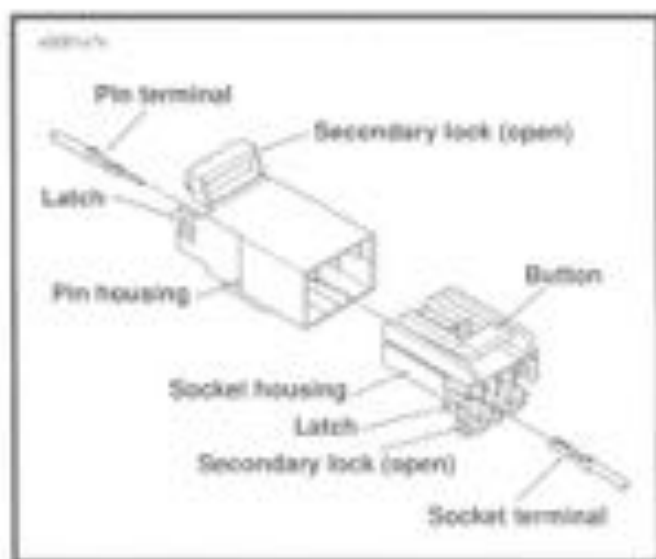

Figure 2-91. 4-Pin Amp Multilock Connector
7. See Figure 2-91. Disassemble socket housing following procedure in Chapter 7 page 7-62.